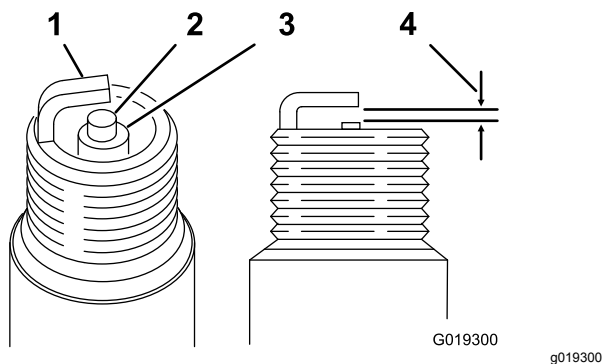

Figure 34
**Air Gap:** 0.70 to 0.80 mm (0.028 to 0.031 inch); refer to Figure 34
3. Set the air gap to 0.70 to 0.80 mm (0.028 to 0.031 inch) (Figure 34).